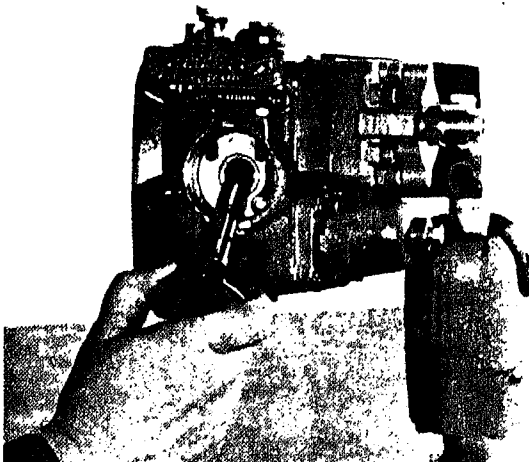

Fig. 501-13 Removing throttle assembly
2. Pull throttle assembly from pump. Fig. 501-13. The throttle shaft is a select fit in its sleeve and sizes are identified by color code.